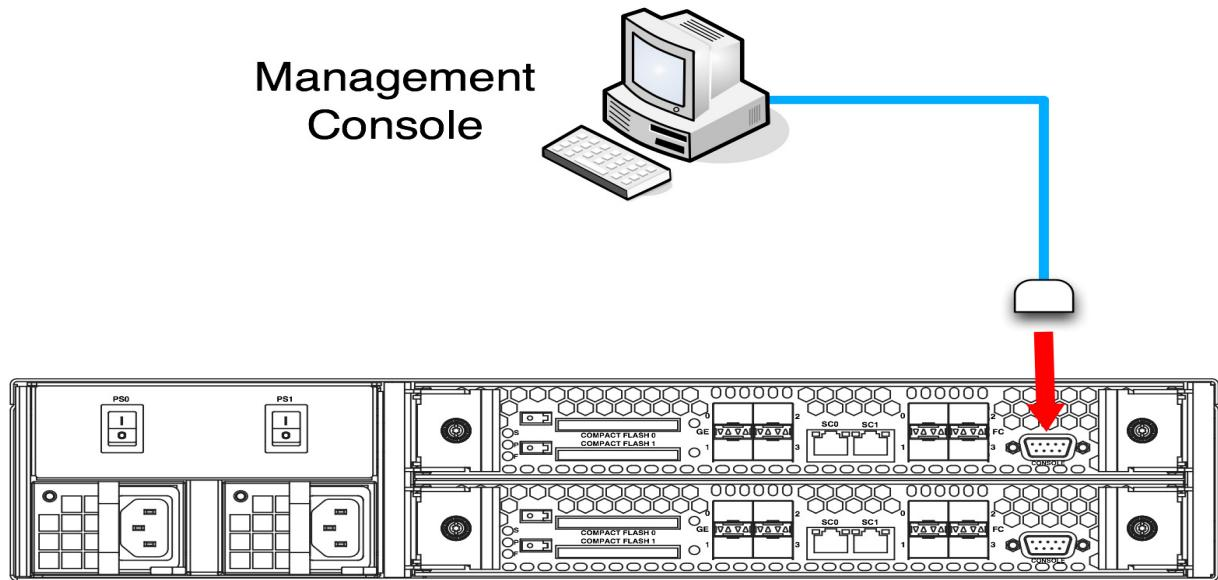

Figure 5-1 Connecting to the Management Console
Step 2: Plug the other end of the RS-232 management cable into the Console port on the rear of the ONStor Cougar 6000 Series NAS Gateway. See Figure 5-1 on page 5-3.